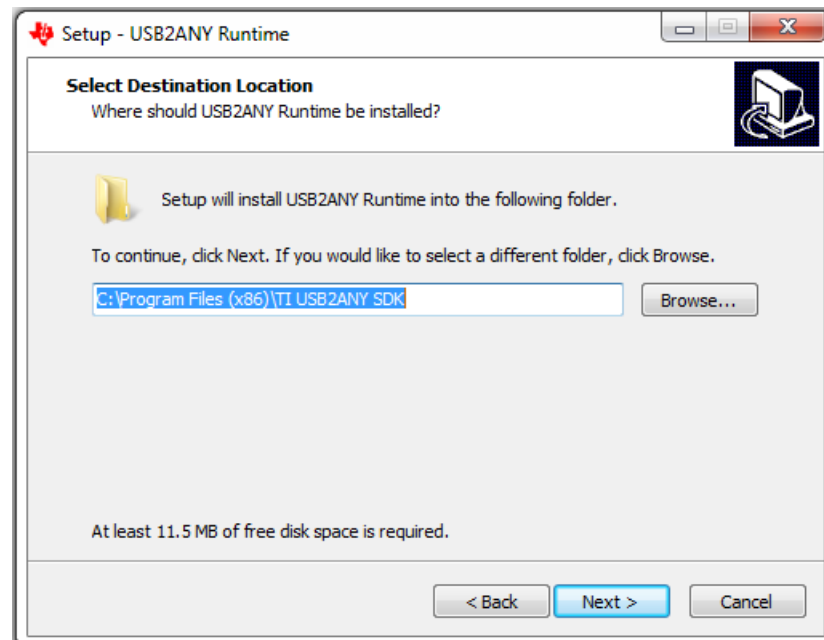

Figure 20. USB2ANY Destination Directory
- Set the destination directories for the USB2ANY installation and press the *Next >* button as shown in Figure 20.